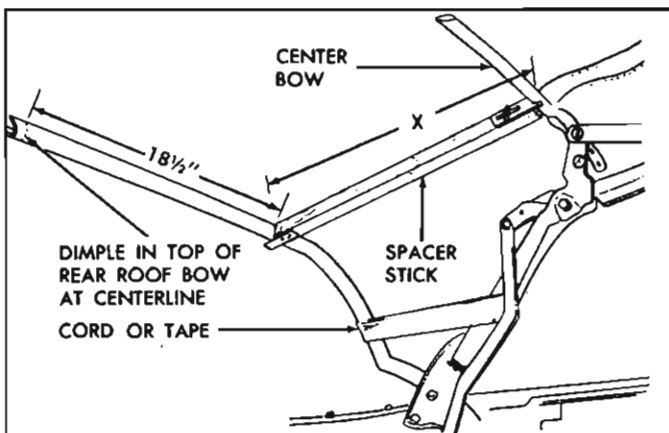

Fig. 46—Installation of Spacer Sticks
14. Lock top to windshield header. Install radius end of each adjustable spacer stick to fit against center roof bow. Install opposite end of spacer stick so that metal plate fits under rear roof bow (fig. 46). Spacer sticks should be installed along inboard edge of side stay pad or approximately 18½" outboard from centerline dimple of rear roof bow. While exerting rearward pressure on rear bow to draw side stay pads taut, extend spaced sticks until they fit snugly between center bow and rear roof bow, then tighten wing nuts.
15. Temporarily tie or tape rear bow to rear side roof rails (fig. 46). Detach side stay pads and back curtain assembly from rear bow.
1. If a new top is being installed, but it was impossible to perform step 14 of removal procedure, preset spacer sticks to shortest length and install between center and rear roof bow (fig. 46). Adjust sticks so that dimension "X" (measured along spacer stick from front upper rolled edge of rear roof bow to center of center bow) is 15" (± ¼"). Tie or tape rear bow to rear side roof rails.